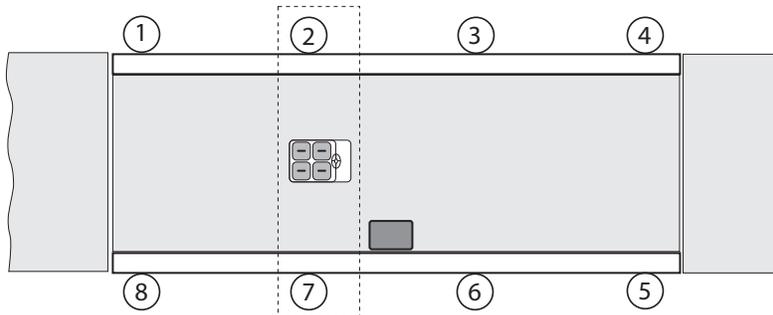

Figure 7-5. Trimming Paired Sections 2:7, 3:6 and 4:5
2. Move the weight cart directly over the next paired cell section (2, 7 in Figure 7-5) and record the indicator reading; do the same for the last two paired sections (cells 3, 6, and 4, 5 in Figure 7-5)